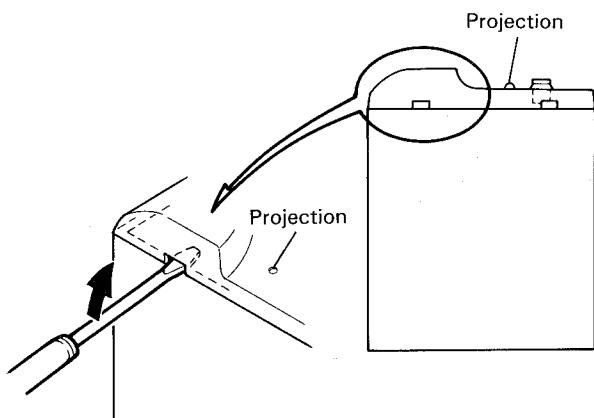

Fig. 7-26
4. Insert an ordinary (-) screwdriver into the left hole shown in Fig. 7-26 and set its edge just under the small projection. Keeping this position, slowly turn the screwdriver to push the front panel gently upward with care as described in the above note.
5. When there is a gap between the front panel and the speaker box, insert something like a UM-3 battery into it as shown in Fig. 7-26.
7. In order to prevent the front panel from damage, insert an ordinary screwdriver between the front panel and the acrylic plate as shown in Fig. 7-26, then lift the front panel upward using the front baffle plate as a fulcrum.
9. For removing the speaker unit, remove four screws ④ for the full range speaker ⑨.